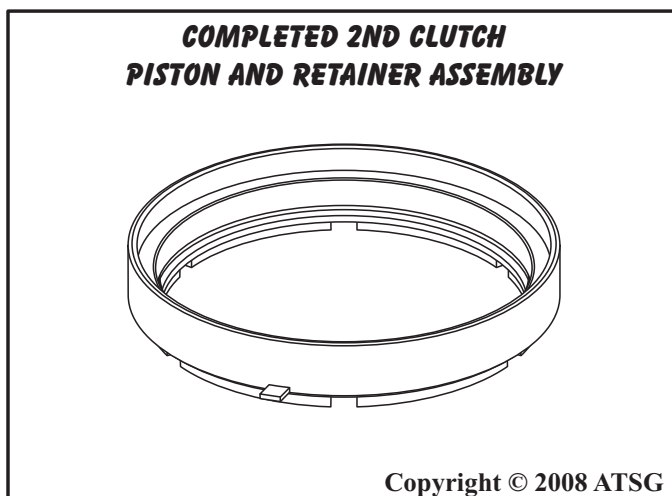

Figure 135
8. Set completed 2nd clutch piston and retainer assembly aside for the final assembly process, as shown in Figure 135.